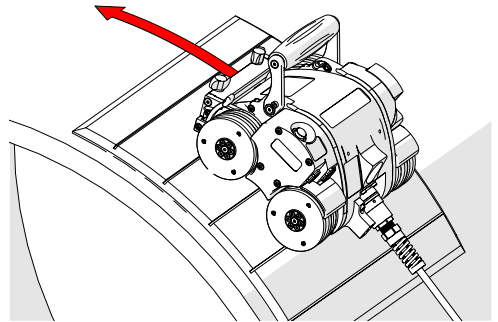
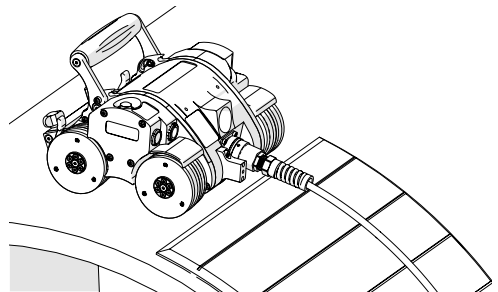

Fig. 202 - Drive crawler off the mat
Fig. 203 - Magnetized to surface
7. Ensure all four crawler wheels are held firmly against the installation/removal mat. While holding the crawler, use **Jog Mode** (see “Jog Mode” on page 98) to carefully drive the crawler (Fig. 202) off the installation/removal mat and onto the inspection surface (Fig. 203).